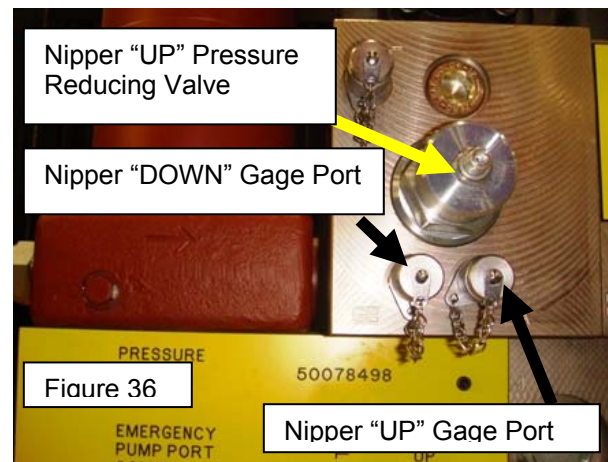

Figure 36
1. Plug a hydraulic pressure gage at the pressure port for the nipper “UP” valve (Figure 36).
1. Plug a hydraulic gage at the pressure port for the DOWN valve (Figure 36).